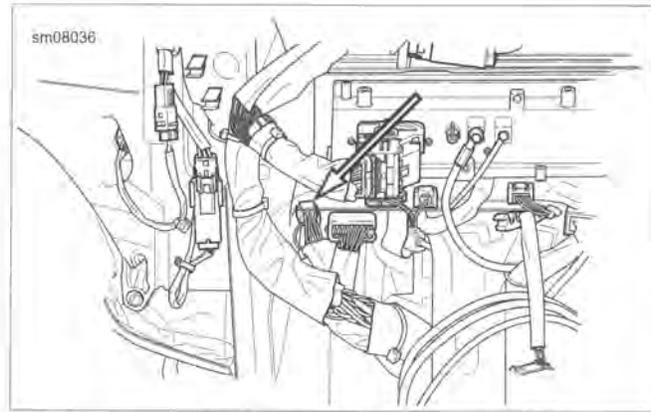

Figure 4-24. TGS Connector: Fairing Models
- b. See Figure 4-24. Disconnect TGS connector.